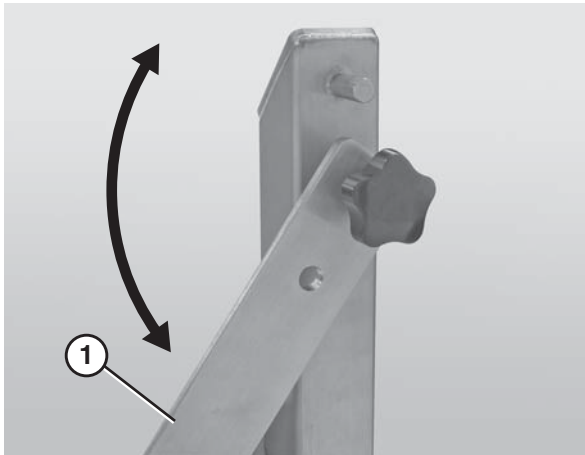

Figure 43
2. Lower the quick release arm (Figure 43, item 1) on one of the stands. *Note: if the conveyor is not equipped with Quick Release (QR Type) stands, it will be necessary to remove the entire stand.* For detailed instructions, refer to the “Sanitary Support Stands Installation, Maintenance and Parts Manual.”